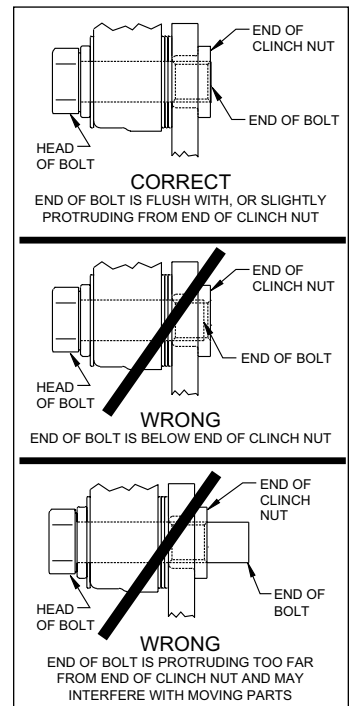

Figure 7. Clinch Nut Engagement Diagram
CAUTION: All mounting bolts must fully engage clinch nuts. Be sure to check that all bolts are either flush or protruding through flanged side of clinch nut after shimming, Figure 7.
the mounting bolts and view the rotor (4) through the top opening of the caliper. The rotor should be centered in the caliper, Photo 6. If not, adjust by adding or subtracting shims between the bracket and the caliper. Always use the same amount of shims on each of the two mounting bolts. **NOTE:** The end of each bolt must be flush with or slightly protruding from the head of the clinch nut, as shown in Figure 7. If necessary place spare shims between caliper washer (6) and caliper mounting ear to achieve the proper clinch nut engagement. Once the caliper alignment and clinch nut engagement are correct, remove the bolts one at a time, apply red *Loctite*® 271 to bolt threads, and torque to 40 ft-lb.